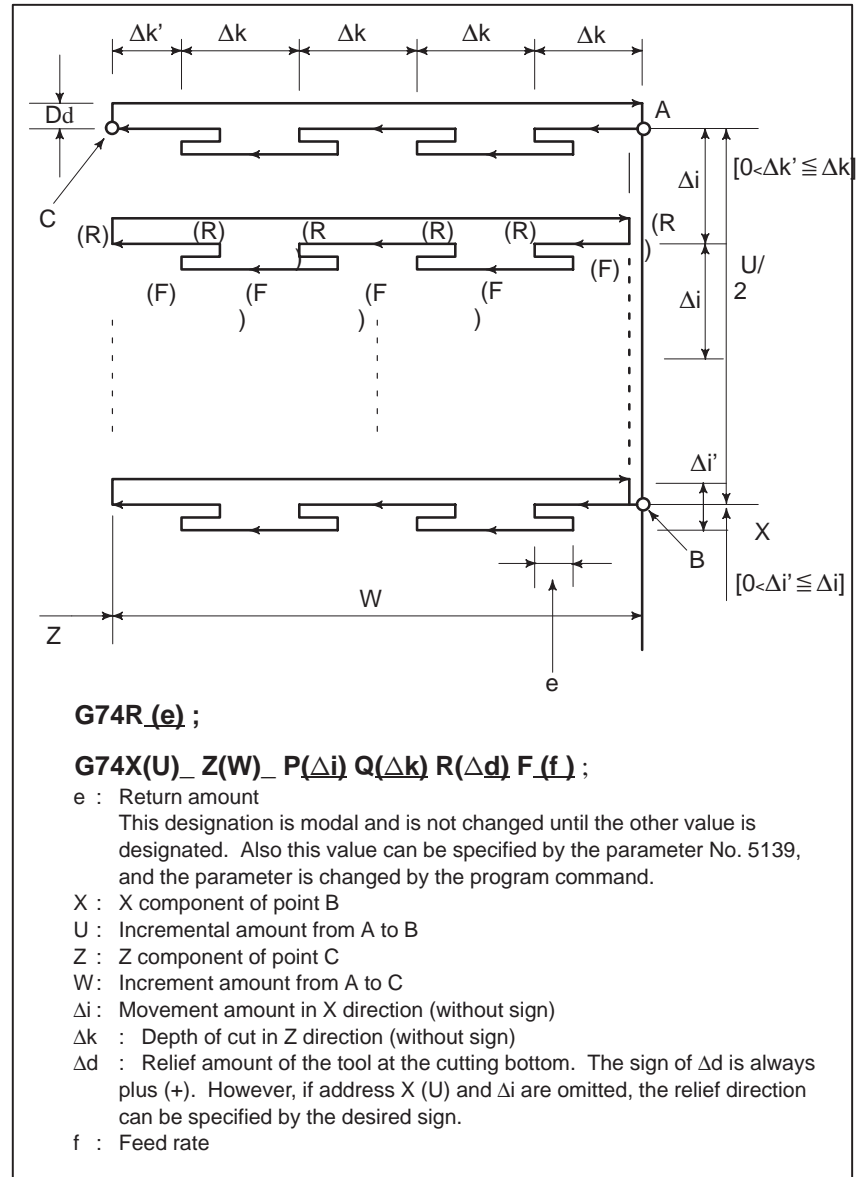

Fig. 14.2.5 (a) Cutting Path in End Face Peck Drilling Cycle
The following program generates the cutting path shown in Fig. 14.2.5 (a). Chip breaking is possible in this cycle as shown below. If X (U) and Pare omitted, operation only in the Z axis results, to be used for drilling.